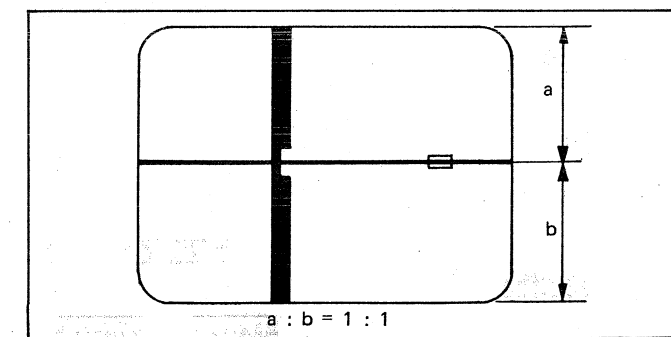

Fig. 23
3. Adjust R5440 (V-Delay Position) so that the displayed on the screen becomes as shown in Fig. 23.